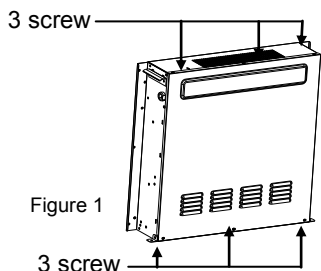

Figure 1
21. See figure 1 for the follow directions. This heater is for use on 120 volts. The cord has a plug as shown at A. An adapter as shown at C is available for connecting three-blade grounding type plugs to two-slot receptacles. The green grounding plug extending from the adapter must be connected. To a permanent ground such as a properly grounded outlet box. The adapter should not be used if a three-slot grounded receptacle is available.
- 3). Unscrew the 6 screw then remove the back plate (figure 1 and 2)